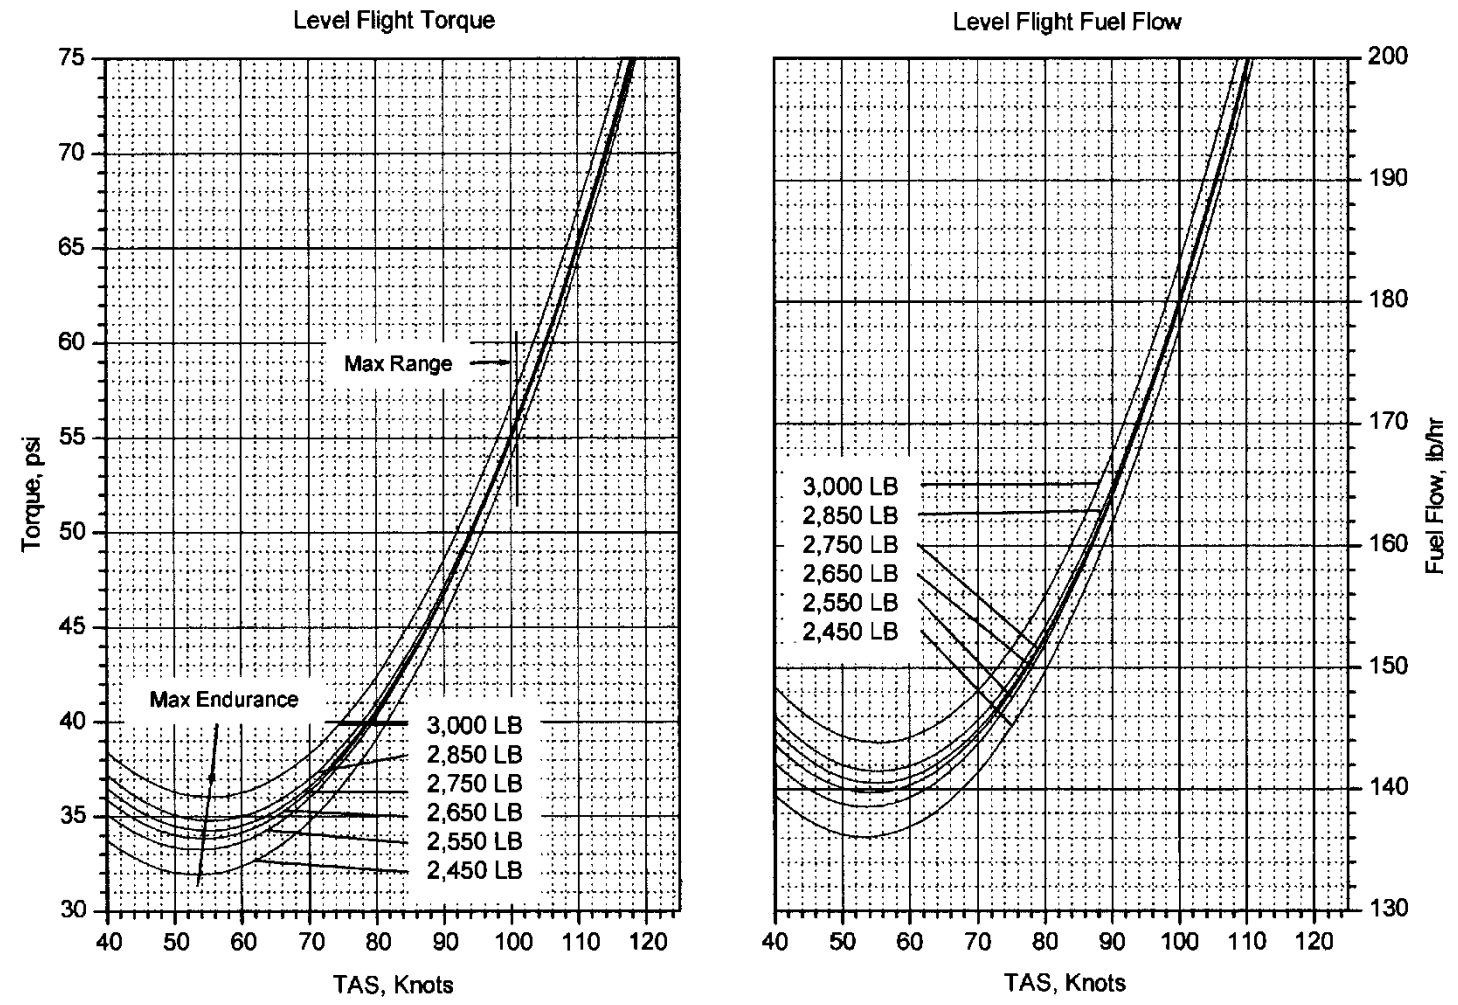

Figure 4-8. Cruise Performance - Sea Level
1. The Cruise Performance charts (Figure 4-8 through 4-11) show the torque pressure and fuel flow required for level flight at the various pressure altitudes, airspeeds, and gross weights.